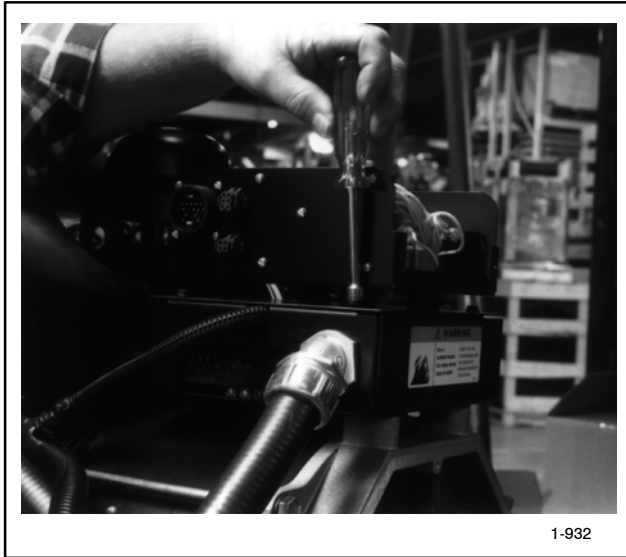

Figure 8-3. Removing the Junction Box Cover
3. Loosen the screws on the junction box cover using a 5/16-inch nut driver or 5/16-inch wrench. See Figure 8-3.